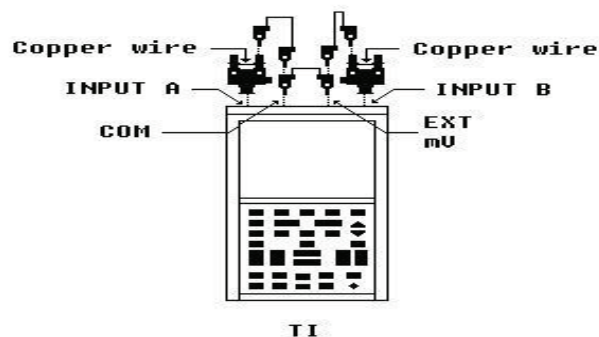

Figure 9. Input short.
(3) Press pushbutton **BACKLIGHT** (sun shaped pushbutton just below **SPECIAL FUNCT** key) with **AUTO SET** together, then release.
(4) Set calibrator to produce + 12 V dc.
(5) Press **(F4) CALIBRATE SCOPEMETER.**
(6) Displayed are the numbers of calibration memories free. Press **(F1) CLOSE** to display **CONTRAST, SCOPE, METER, ESCAPE, and CAL STORE.**
(7) Press **(F2) SCOPE** to display/highlight **SCOPE** and **CAL 1.**
(8) Set calibrator to standby.
(9) Remove +12 V dc from calibrator to TI.
(10) Connect equipment as shown in figure 9 below: